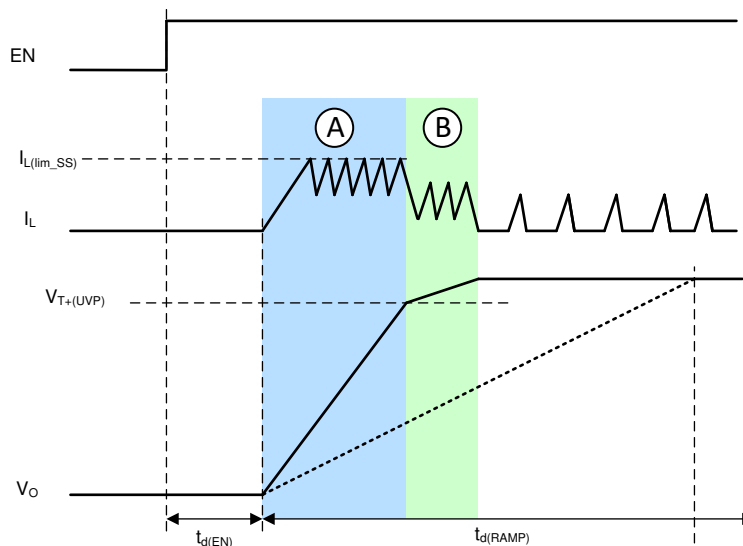

Figure 8-1. Typical Soft-Start Behavior
The TPS631012 and TPS631013 have two start-up mechanisms that are controlled by the FAST_RAMP_EN bit in Register CONTROL2. Figure 8-1 shows a typical start-up case (low output load, typical output capacitance).
- When FAST_RAMP_EN = 1, the fast ramp mode is enabled. The output ramp behavior is shown as the solid line V_o in Figure 8-1
- When FAST_RAMP_EN = 0, the fast ramp mode is disabled. The output ramp behavior is shown as the dash line V_o in Figure 8-1
When fast ramp mode is enabled, the devices control the inductor peak current to limit the inrush current and ensure the fastest possible soft start if the capacitance is chosen lower than that for which the ramp time $t_{d(RAMP)}$ was selected. The output voltage then rises faster than the reference voltage ramp (see phase A in Figure 8-1). To avoid an output overshoot, the current clamp is deactivated when the output is close to the target voltage and follows the reference voltage ramp slew value given by the voltage ramp, which is finishing the start up (see phase B in Figure 8-1). Transition from the current clamp operation is detected using the $V_{T+(UVP)}$ threshold, which is typically 90% of the target output voltage. After phase B, the output voltage is well regulated to the nominal target voltage. The current waveform depends on the output load and operation mode. The current limit during start-up has two options and is controlled by the CL_RAMP_MIN bit in Register CONTROL2.
- When CL_RAMP_MIN = 0, the typical current limit during start-up (phase A in Figure 8-1) is 500mA
- When CL_RAMP_MIN = 1, the typical current limit during start-up (phase A in Figure 8-1) is 1000mA